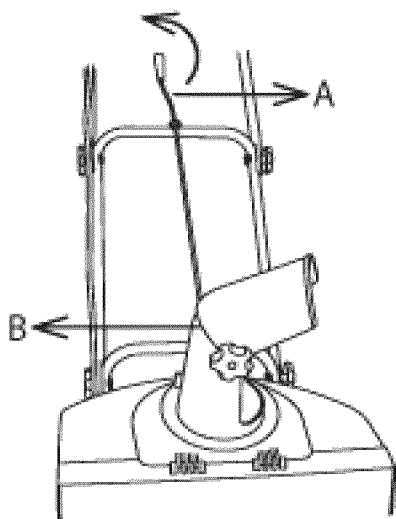
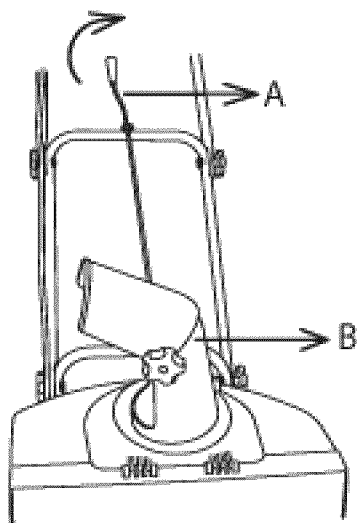

Figure 22
Figure 23
1. The discharge chute can be adjusted 180 degrees by rotating the chute crank. Rotate the chute control crank clockwise to move the discharge chute to the left (Fig. 22); counterclockwise to move the chute to the right (Fig. 23).